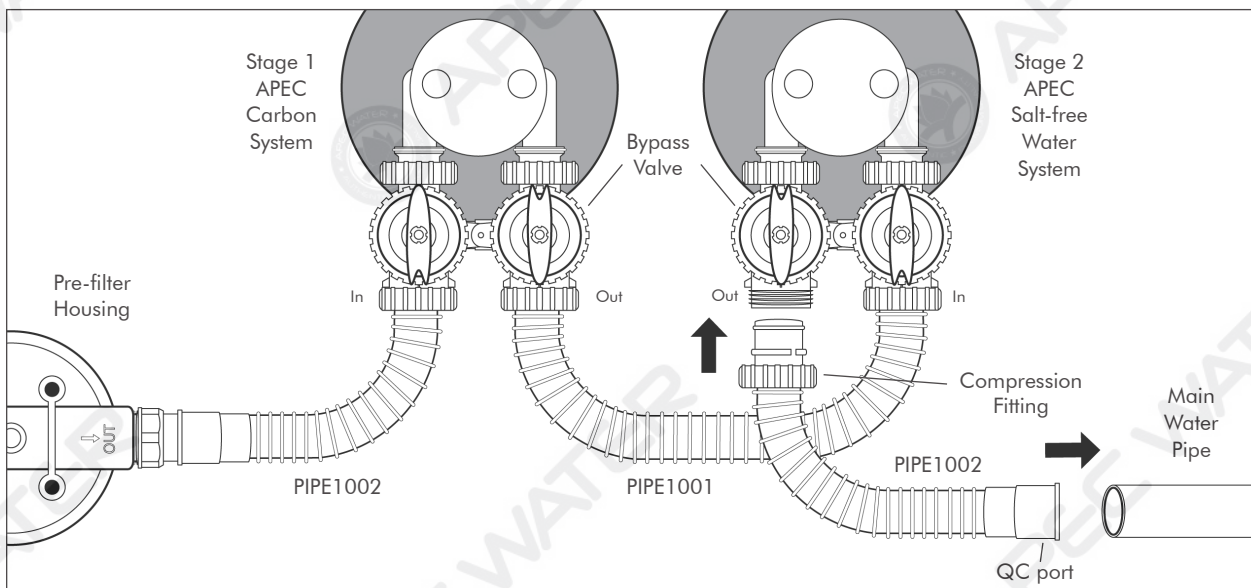

Fig.6
Step 5. Connect PIPE1002 into the OUTLET of Stage 2 bypass valve, screw the compression fitting. Hand-tightening is recommended. See **Fig.6**.
Step 6. Connect PIPE1002 into water pipe going into the home. Push the flexible pipe QC port into water pipe, please slightly pull on the pipe to ensure the pipe connection is completely secured. See **Fig.6**.